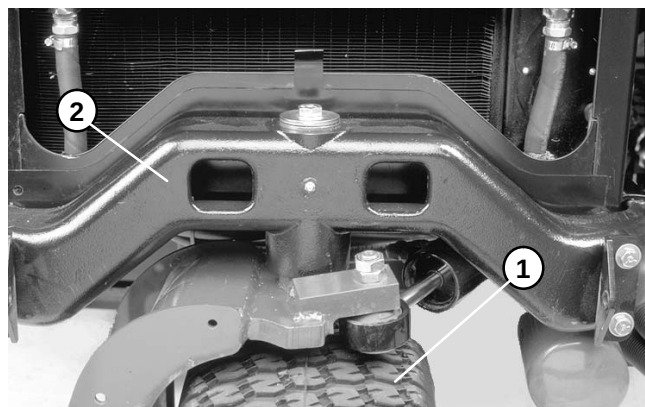

Figure 2
- A. Secure a chain fall or hoist to the rear casting (Fig. 2).